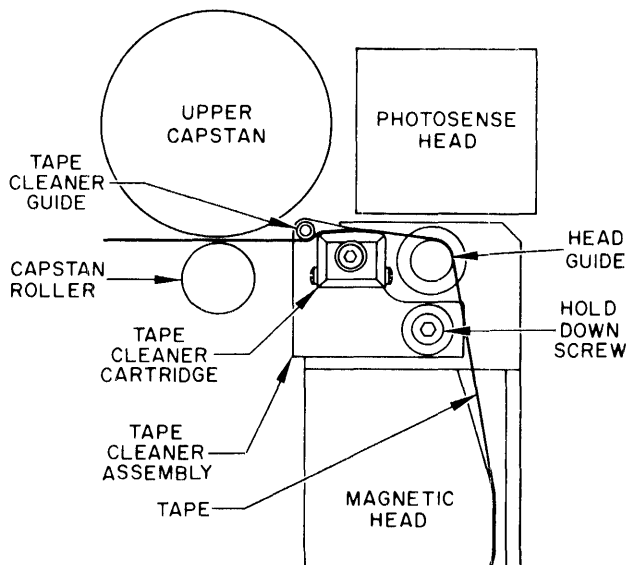

Figure 5-25.
Step 6: Locate the tape cleaner as shown in Figure 5-25 and install the magnetic head hold-down screw complete with flat washer and lockwasher. Half-tighten the screw.
Step 7: Thread the tape as shown in Figure 5-25 and check the tape path between upper capstan and capstan roller; pivot the cleaner on the hold-down screw so that the tape does not touch the capstan roller but may make light contact with the capstan. Tighten the hold-down screw.